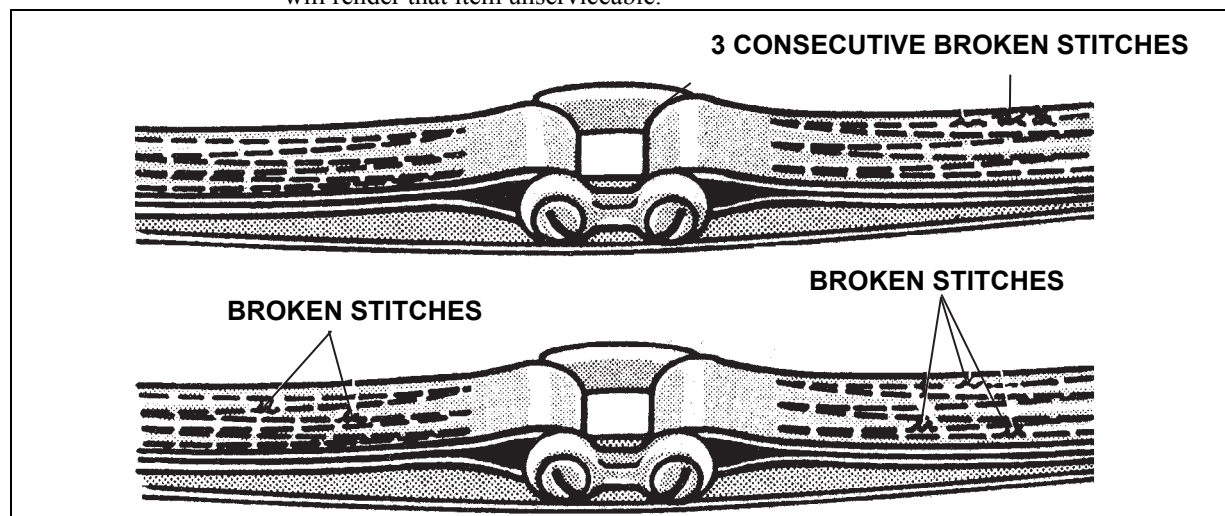

Figure 6-29. Sling with Broken and Loose Stitches
- Three or more consecutive broken and/or loose stitches (figure 6-29).